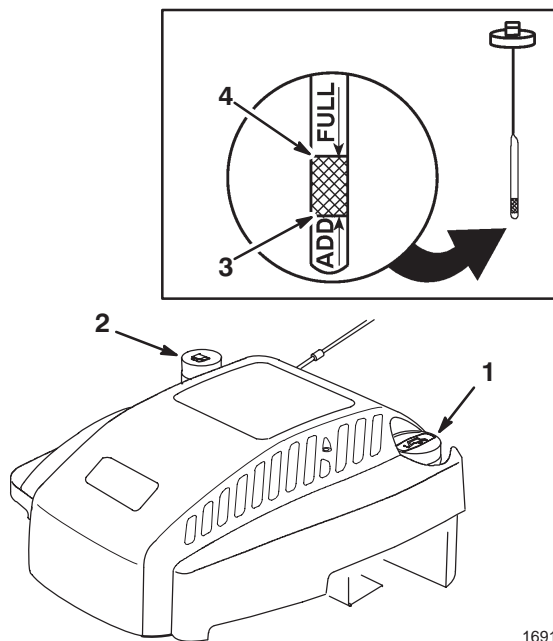

Figure 7
Before each use, assure oil level is between ADD and FULL marks (Fig. 7). Add oil if level is low.
3. Wipe dipstick and insert it into filler neck. Rotate cap 1/4 turn. Then remove dipstick and check level of oil (Fig. 7). If level is low, add only enough oil to raise level to FULL mark on dipstick. **DO NOT FILL ABOVE FULL**
1. Clean around fuel tank cap and remove cap from tank (Fig. 7). Do not fill tank full. Using unleaded gasoline, fill fuel tank to within 6 to 13 mm (1/4" to 1/2") from top of tank, not into filler neck.